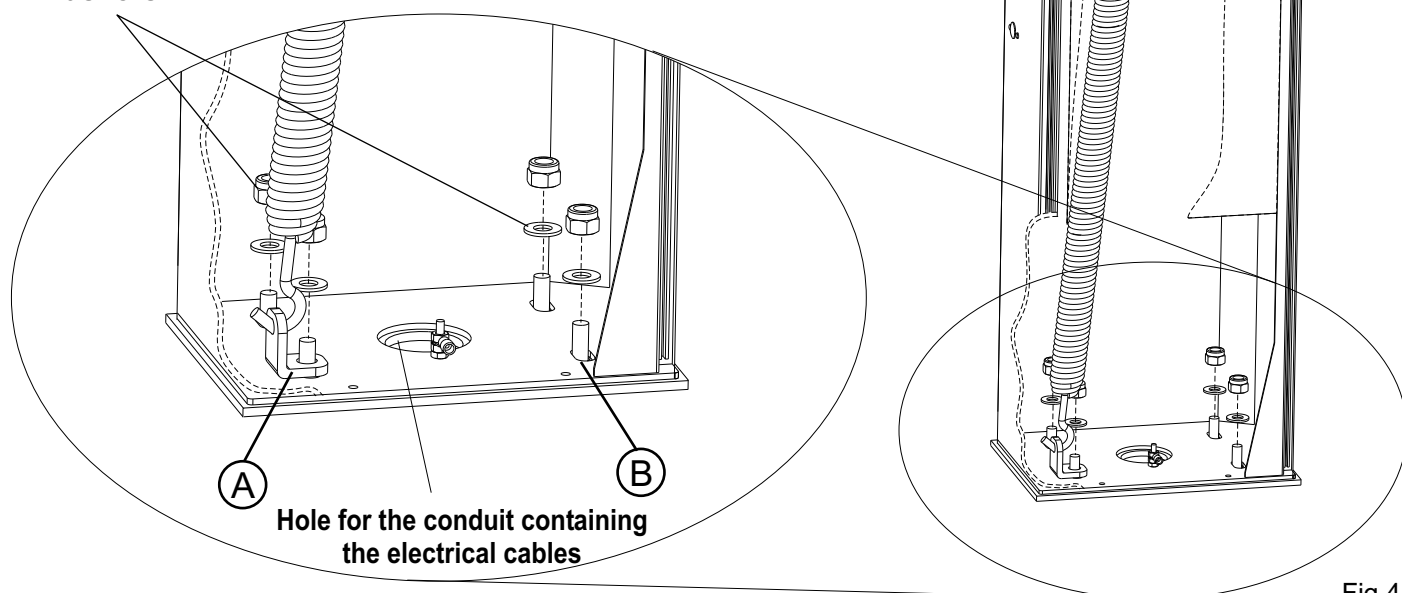

Fig.4
- Insert the bracket for anchoring the spring: A in case of left-hand mounting, B in case of right-hand mounting; the bracket must always be positioned towards the inside as in Fig. 4